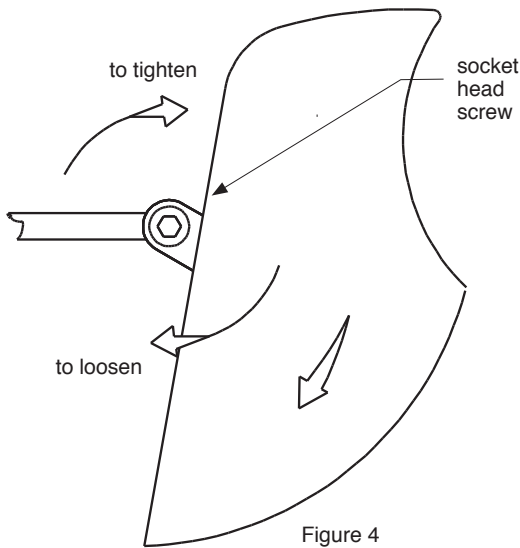

Figure 4
Step 5: Tilt the speaker to the desired tilt angle then tighten the side socket screws of the speaker adapter plate. Be sure that the screws have been tightened permanently before releasing the weight of the speaker. If the tilt angle must be further adjusted, **DO NOT PULL ON THE SPEAKER**, rather, firmly hold the speaker in place, loosen the socket screws, reposition the speaker, then retighten the side socket screws permanently into the new position (Figure 4).
Step 4: Tilt the speaker to the desired tilt angle then tighten the side socket screws of the speaker adapter plate. Be sure that the screws have been tightened permanently before releasing the weight of the speaker. If the tilt angle must be further adjusted, **DO NOT PULL ON THE SPEAKER**, rather, firmly hold the speaker in place, loosen the socket screws, reposition the speaker, then retighten the side socket screws permanently into the new position (Figure 4).